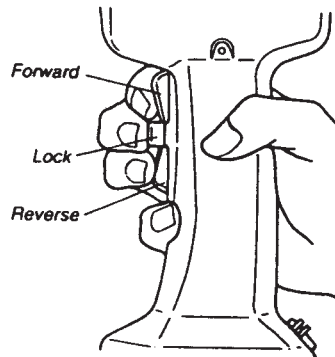

Figure 4
1. For safety purposes, the tool has a two-way action switch system. To activate the Forward mode (cutting) and Reverse mode (release) switch, first press the Lock switch and then press the Forward/Reverse mode switch. (figure 4)